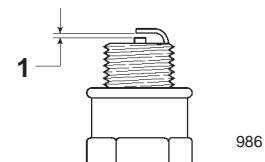

Figure 30
5. Set the gap on the plug at 0.030 inch (0.76 mm) (Fig. 30).